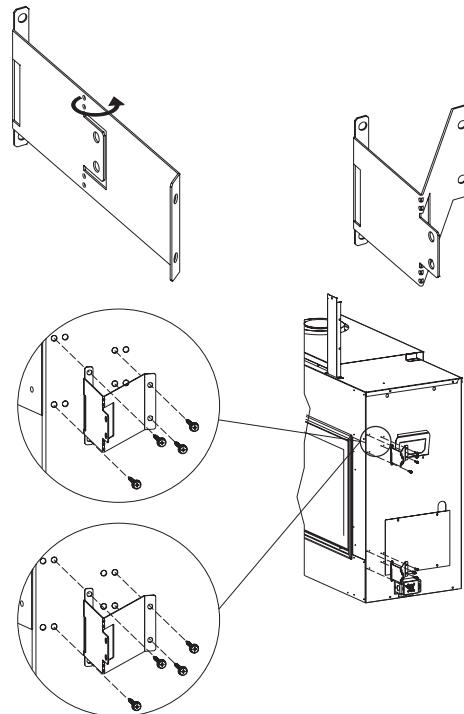

Figure 24
3. Secure the four framing brackets and hand bend them into a V shape as shown in **Figure 24**. Secure with #10 x 1/2 inch hex-head screws.
4. Locate the nailing flanges on the sides of the fireplace (two each side). See **Figure 24**.